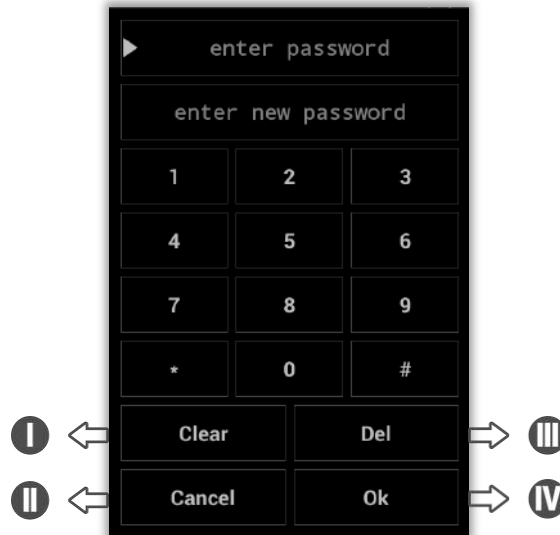

Fig. 74 : Password Number Keys
- 1 This touch button is pressed to set the Screen Saver Password. Screen Saver Password is determined from the keypad that appears on the screen (Fig. 74).
- 1 This touch button is pressed to set the Admin Password. Admin Password is determined from the keypad that appears on the screen (Fig. 74).